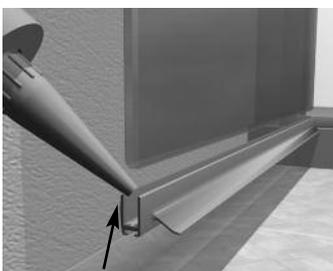
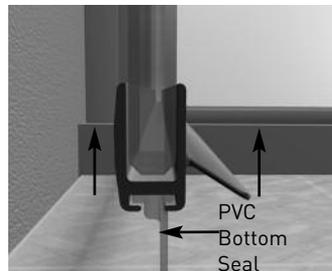

Figure a13
Figure a13i
13. Inside the groove of the Bottom Seal Extrusion (D), place a thin bead of Bathroom Sealant (not supplied) down both sides of the internal walls, the full length of the groove (**Figure a13**). Apply pressure to the Bottom Seal Extrusion onto the bottom of the glass Hinged Door (B). Hold the Bottom Seal Extrusion into place for a few minutes (**Figure a13i**). Check the PVC Bottom Seal has been positioned correctly into the Bottom Seal Extrusion (**Figure A13i**). **Note:** Please ensure that the angle deflector strip is on the inside of the door enabling water to be deflected back into the Tray at all times.
⑤	Ensure the outside gap between the Enclosure and Tray Top is fully sealed.
⑥	Have you fitted your Bottom Seal Extrusion onto the glass (Figure a13/a13i)?
⑦	Has the PVC Bottom Seal been positioned correctly into the Bottom Seal Extrusion groove (Figure a13i)?